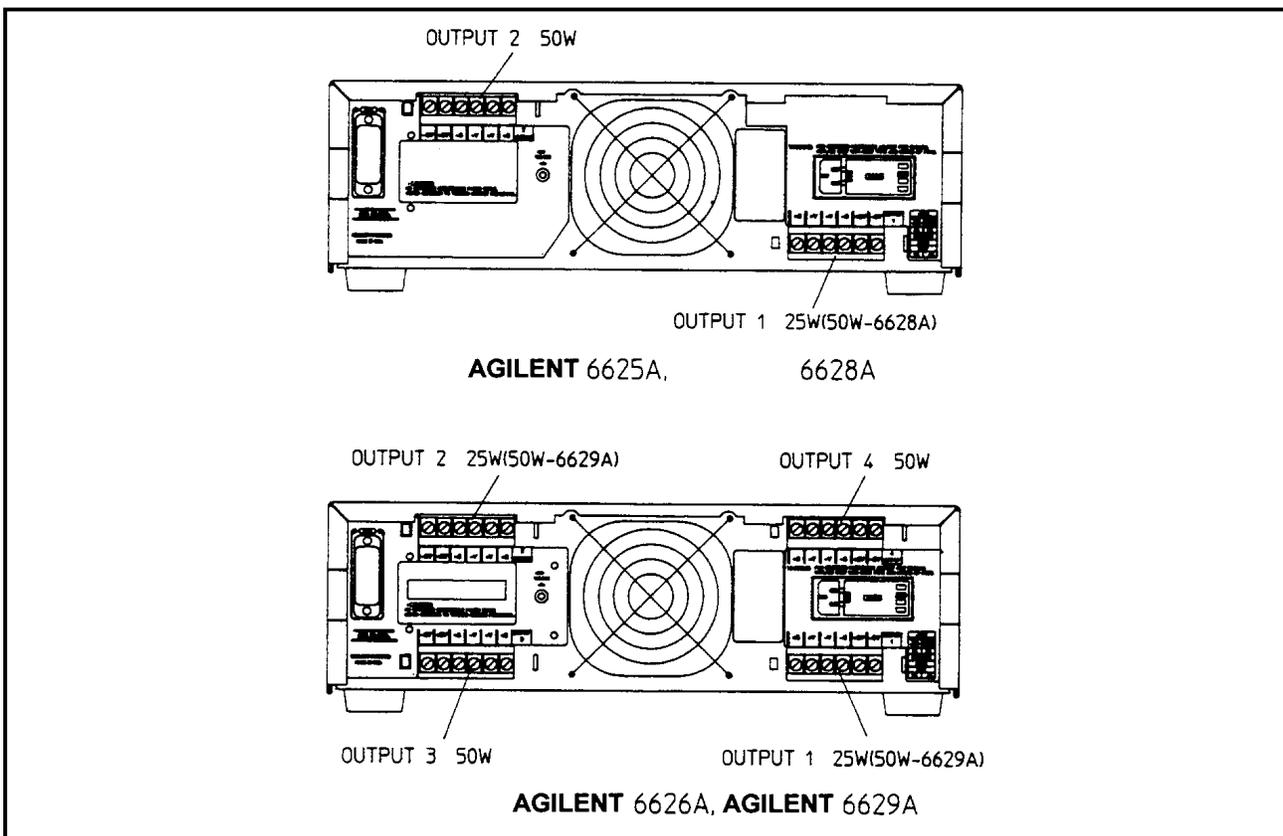

Figure 4-1. Output Combinations
Figure 4-1 identifies the output combinations that are available on the power supply. Each output can operate as a constant voltage (CV) or constant current (CC) source over a wide variety of output voltage and current combinations. In addition, each output has an active downprogrammer which operates at currents up to approximately 110% of the maximum positive current rating of the output. This means that each output can actively sink as well as source its maximum rated output current. At voltages below 2.5 V, a downprogramming resistor continues downprogramming until the voltage reaches approximately zero volts.